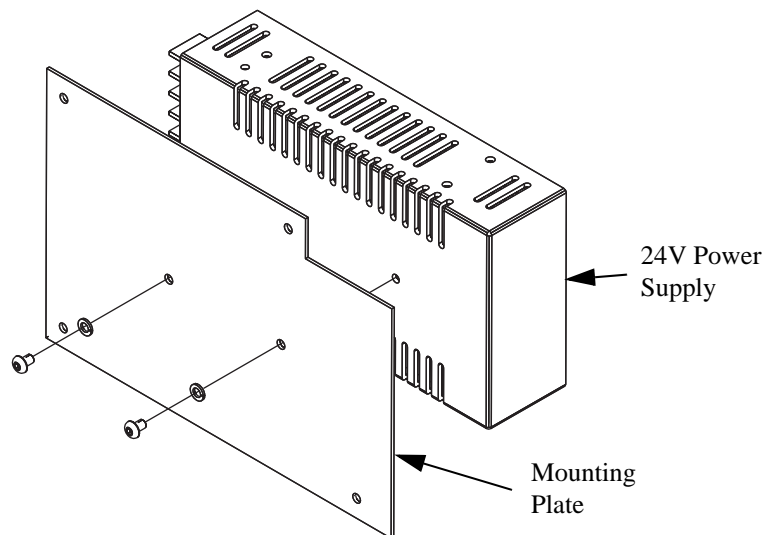

Figure 9-32 Removing the Mounting Plate from the 24V Power Supply
7. Remove the mounting plate from the old power supply (see Figure 9-32) and install it onto the replacement power supply.